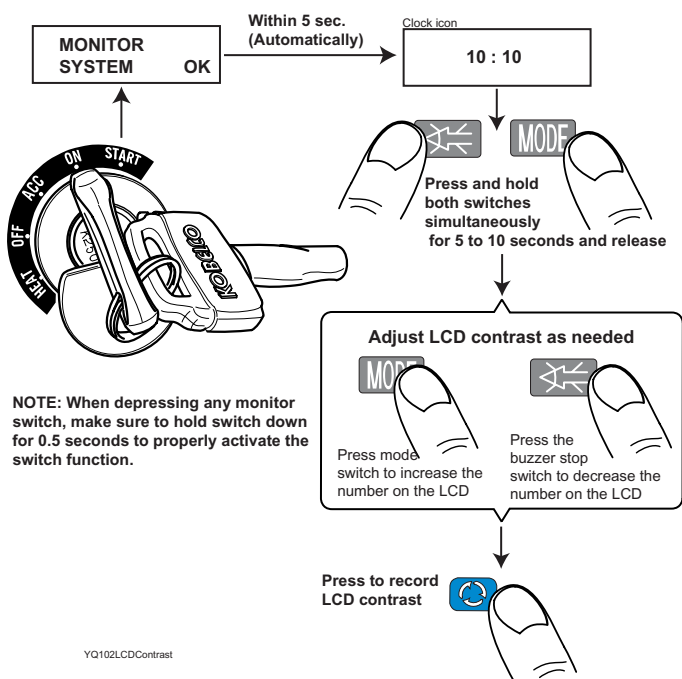

FIGURE 2.13B
11. LCD Contrast Adjustment – FIGURE 2.13B